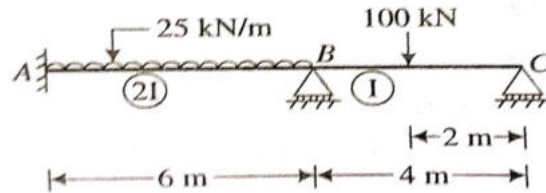

Figure 7.
9. Analyze the continuous beam shown in figure 7, by using [14M]